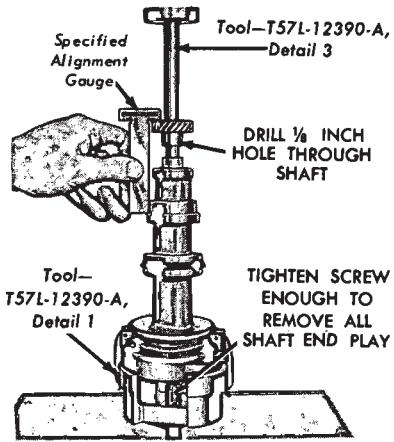

FIG. 23—New Shaft and Gear Installation—V-8 Engine
4. With the backing screw on the support tool tightened enough to remove all end play, press the gear on the shaft to the specified distance from the bottom face of the gear to the bottom face of the distributor mounting flange (Fig. 23). Drill a 1/8-inch hole through the shaft using the hole in the gear as a pilot.